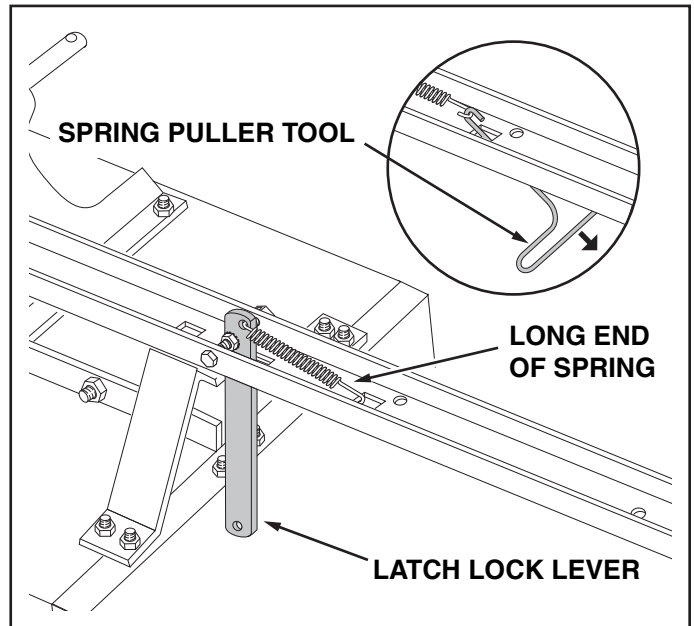

FIGURE 11
- Hook the **short** end of the spring into the hole in the latch lock lever. Use the spring puller tool to hook the **long** end of the spring into the square hole in the tongue. The spring puller tool can be stored when finished. See figure 11.